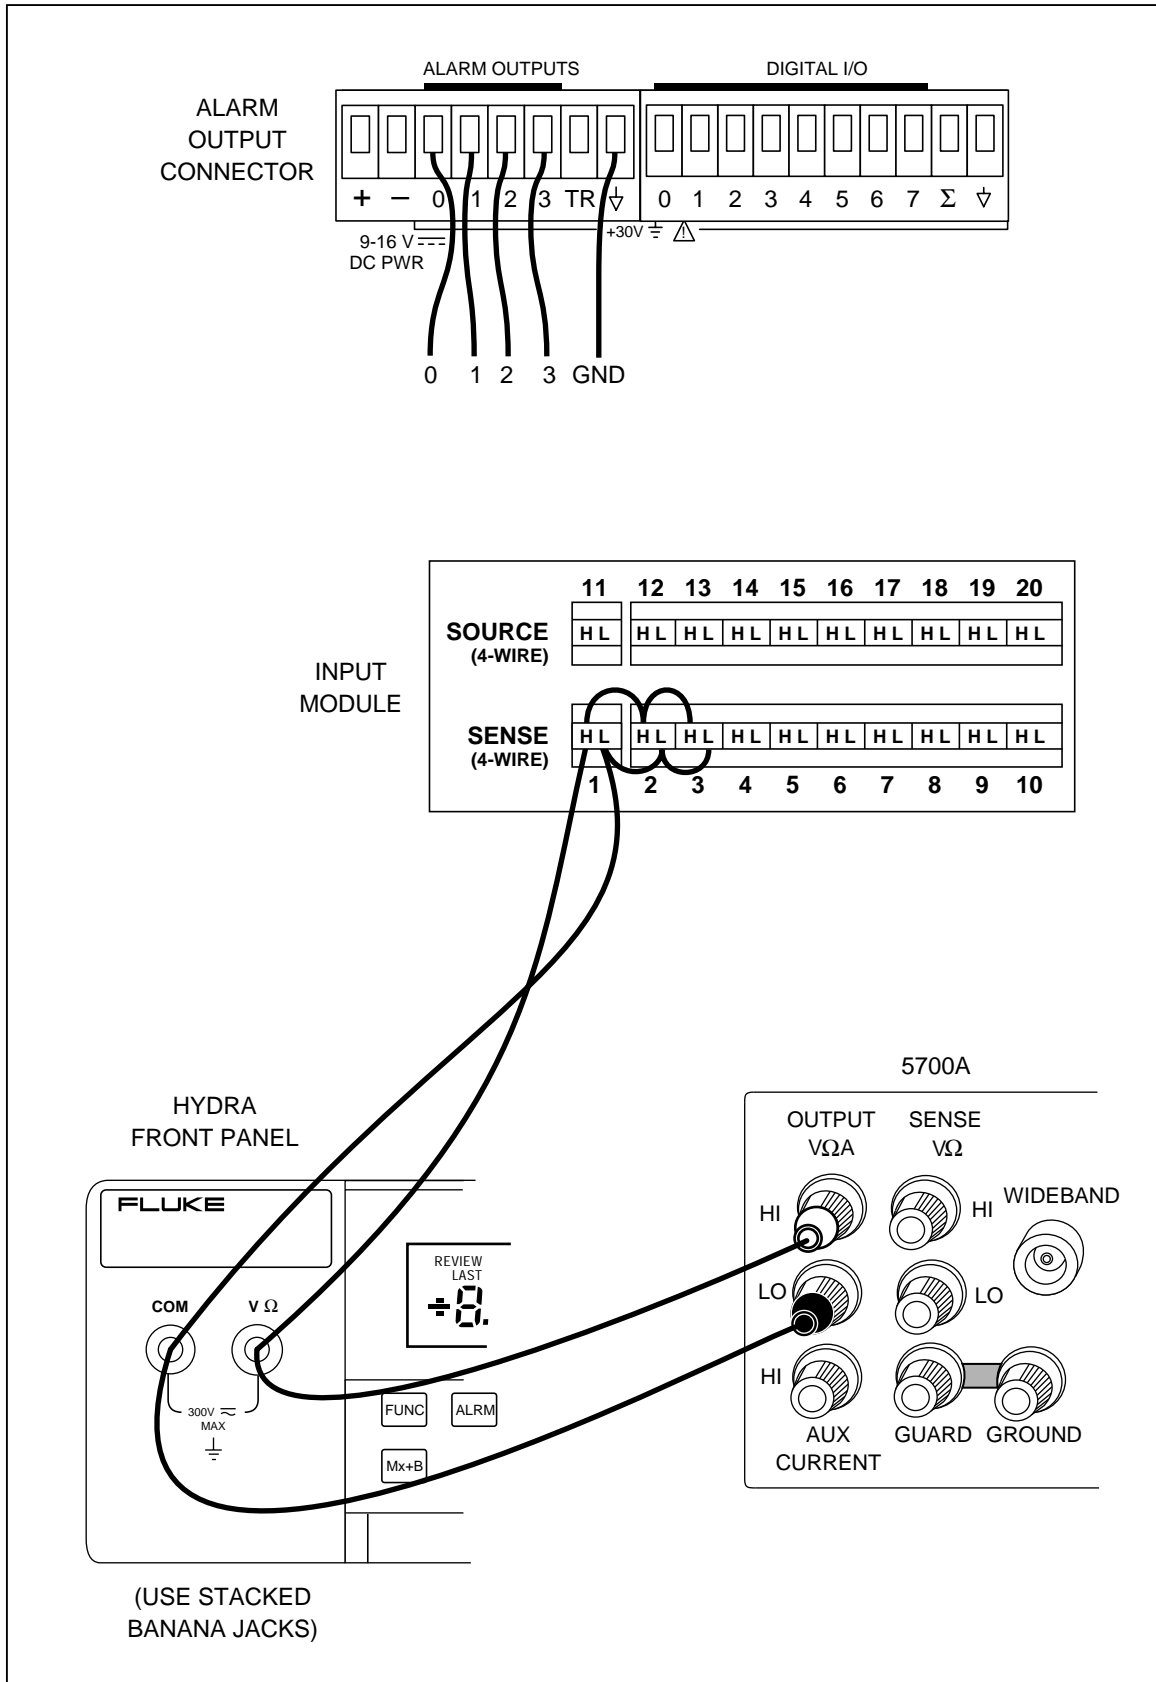

Figure 7-4. Dedicated Alarms Output Test
3. Remove the Input Module from the rear of Hydra Series II. Open the Input Module and jumper the H (high) terminal of channels 1, 2, and 3 together. Connect a test lead to the H of channel 1. Also jumper the L (low) terminals of channel 1, 2, and 3 together. Connect a second test lead to the L of channel 1. Reinstall the Input Module into Hydra Series II. Refer to Figure 7-4.